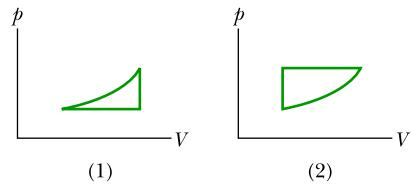

Figure 18.4 Questions 7 and 8.
- 7** Figure 18.4 shows two closed cycles on  $p$ - $V$  diagrams for a gas. The three parts of cycle 1 are of the same length and shape as those of cycle 2. For each cycle, should the cycle be traversed clockwise or counter-clockwise if (a) the net work  $W$  done by the gas is to be positive and (b) the net energy transferred by the gas as heat  $Q$  is to be positive?
- 8** For which cycle in Fig. 18.4, traversed clockwise, is (a)  $W$  greater and (b)  $Q$  greater?